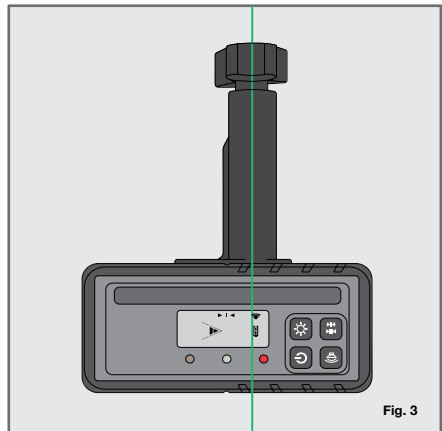

Fig. 3
- Hold the detector upright for horizontal beams (Fig. 2) or rotate 90° for vertical beams (Fig.3).